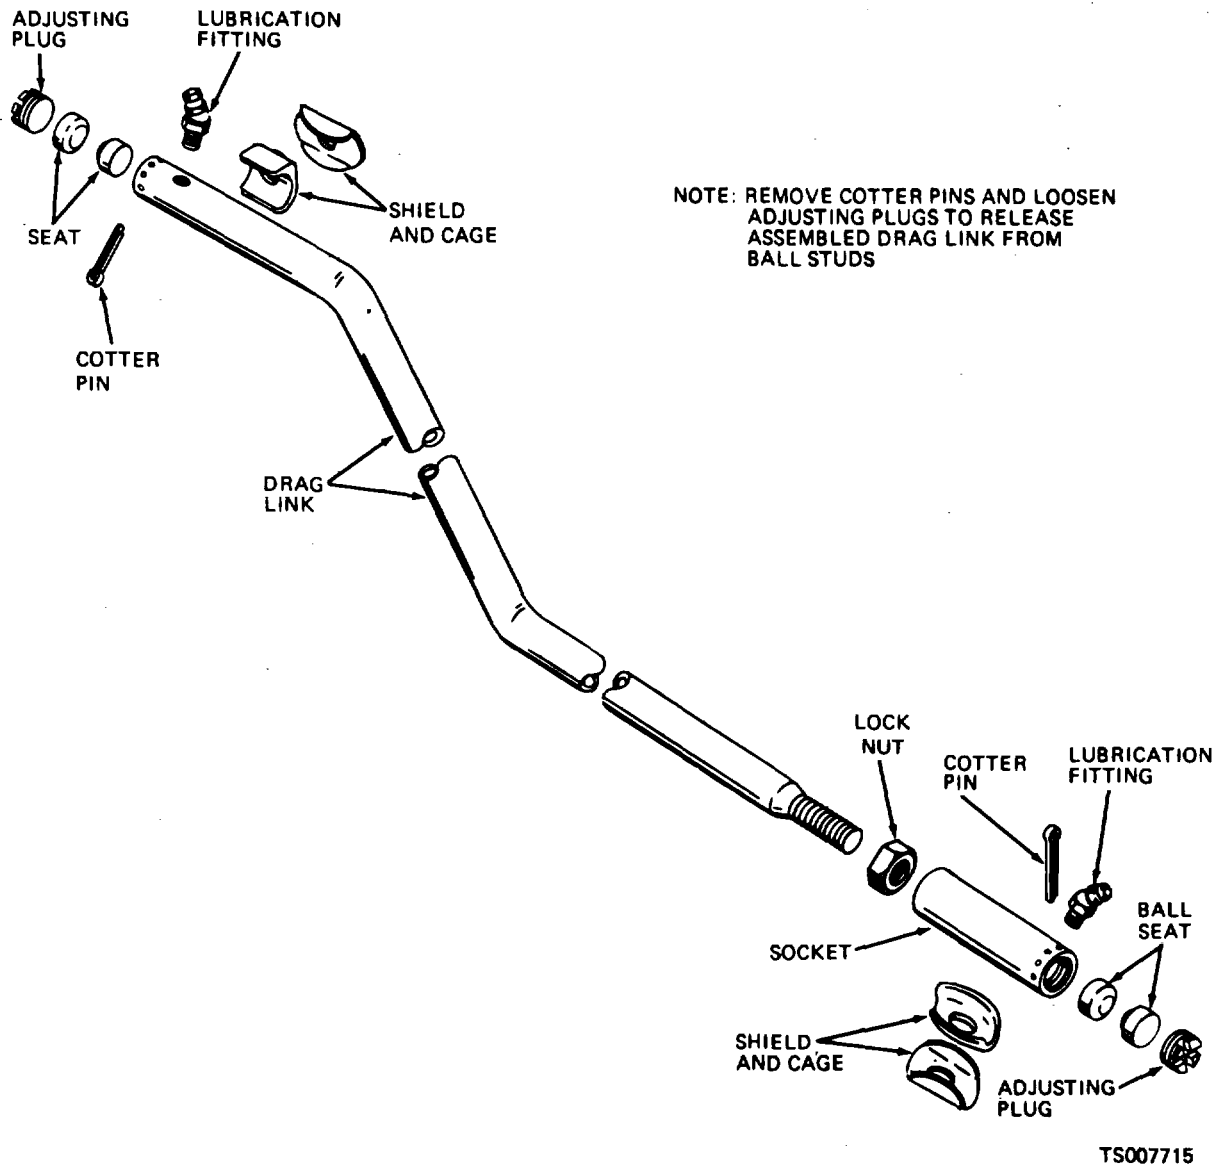

Figure 4-42. Drag Link, Disassembly and Reassembly
*a Removal and Disassembly.* Remove and disassemble the drag link as shown in figure 4-42.